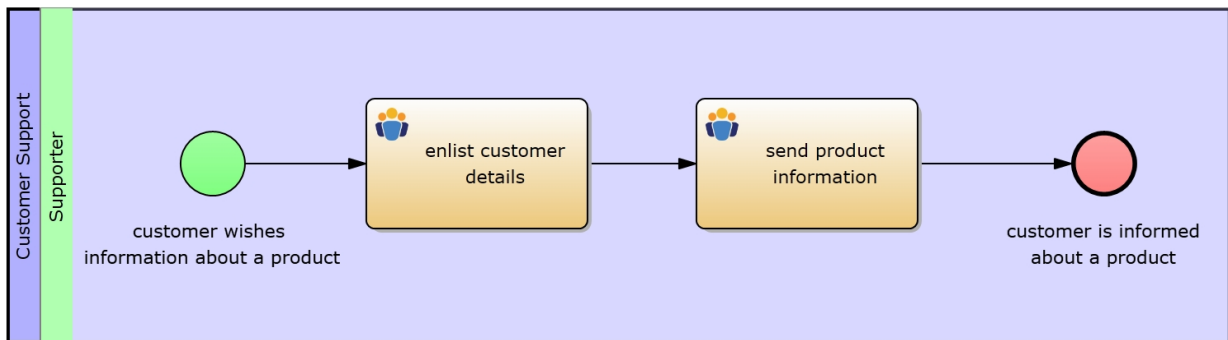

Figure 1: Collaboration Diagram of the example process / IYOPRO link
- Create a collaboration diagram and model the process (figure 1)